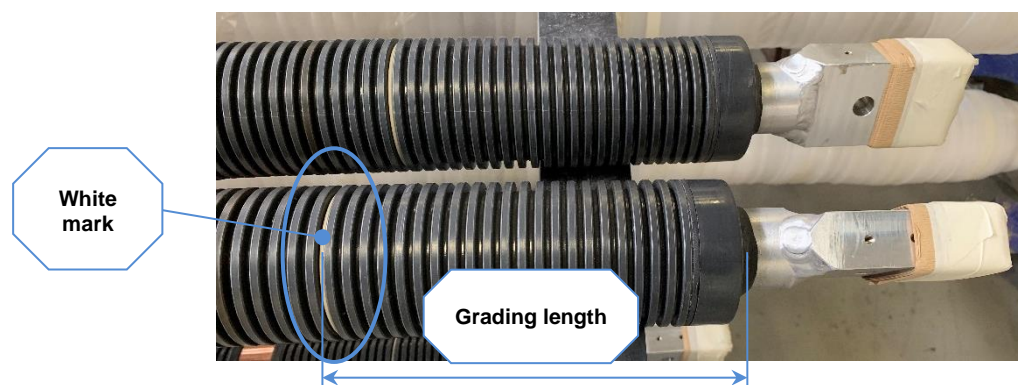

Figure 15: Grading length from white mark until end of isolation (DURESCA® DE Type)
- o DURESCA® DE: grading length = white mark to terminal (Figure 15).